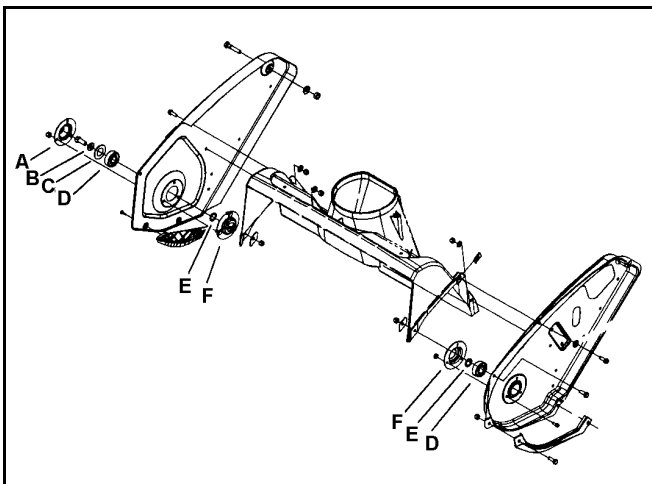

**Figure 52** 3428-0275
- On the right side (opposite the belt) there is one bolt that goes through the bearing and into the rotor shaft. Remove this bolt (Figure 52).